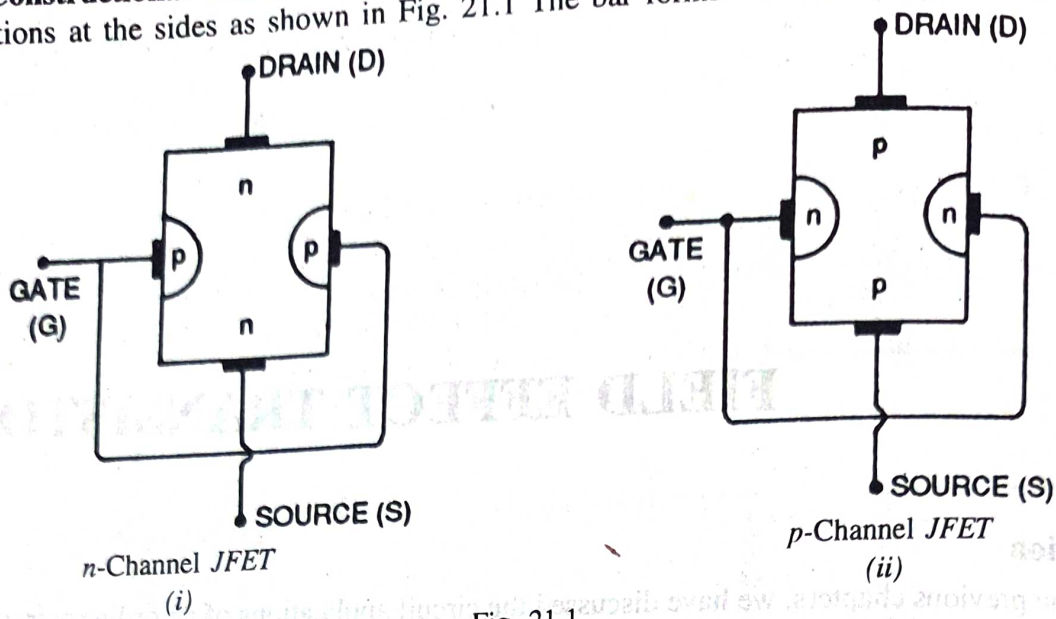

Fig. 21.1
**Constructional details.** A *JFET* consists of a *p*-type or *n*-type silicon bar containing two *pn* junctions at the sides as shown in Fig. 21.1. The bar forms the conducting channel for the
charge carriers. If the bar is of *n*-type, it is called *n-channel JFET* as shown in Fig. 21.1 (i) and if the bar is of *p*-type, it is called a *p-channel JFET* as shown in Fig. 21.1 (ii). The two *pn* junctions forming diodes are connected internally and a common terminal called *gate* is taken out. Other terminals are *source* and *drain* taken out from the bar as shown. Thus a *JFET* has essentially three terminals viz., *gate* (*G*), *source* (*S*) and *drain* (*D*).